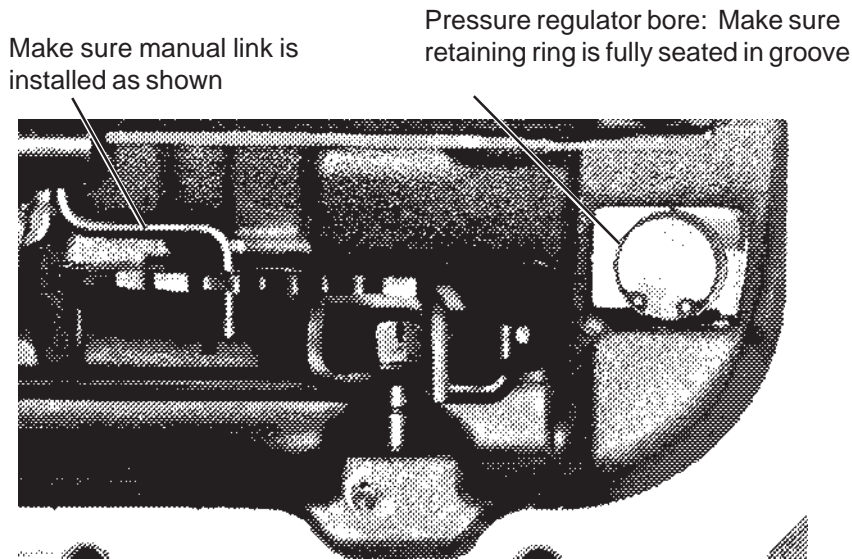
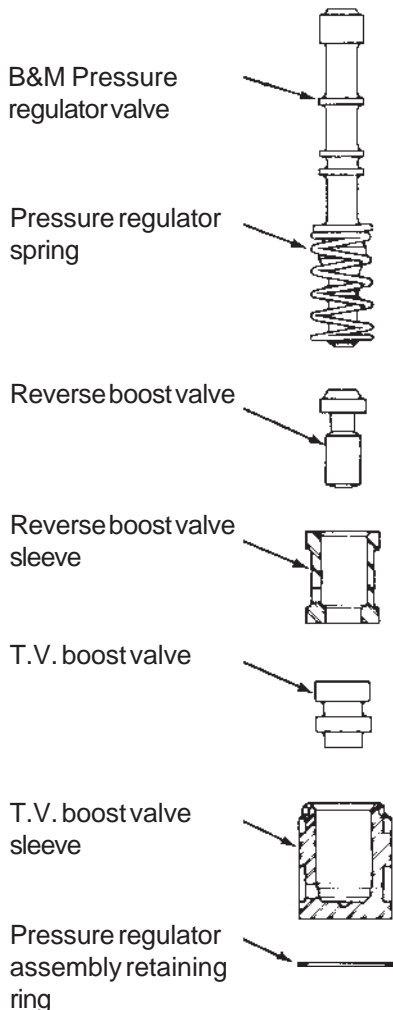

Fig. 3. Pressure Regulator Bore.
Fig. 4. Pressure Regulator Assembly.
STEP 6. All Performance Levels; Pressure regulator. Remove the snap ring at the end of the pressure regulator bore in the oil pump assembly (See Fig. 3.) Use a screwdriver to hold the pressure regulator assembly while removing the retaining ring. If the sleeves stick in the bore, lightly tap the sleeve with a small rod and a mallet (piece of 2X4). Remove two sleeves with valves, the pressure regulator spring and valve. Reassemble the pressure regulator assembly using the **B&M** pressure regulator valve and the **BLUE** spring supplied with the kit (See Fig. 4.) Use the new retaining ring from the kit. **Important:** Make sure the retaining ring is firmly seated in its groove when assembled.